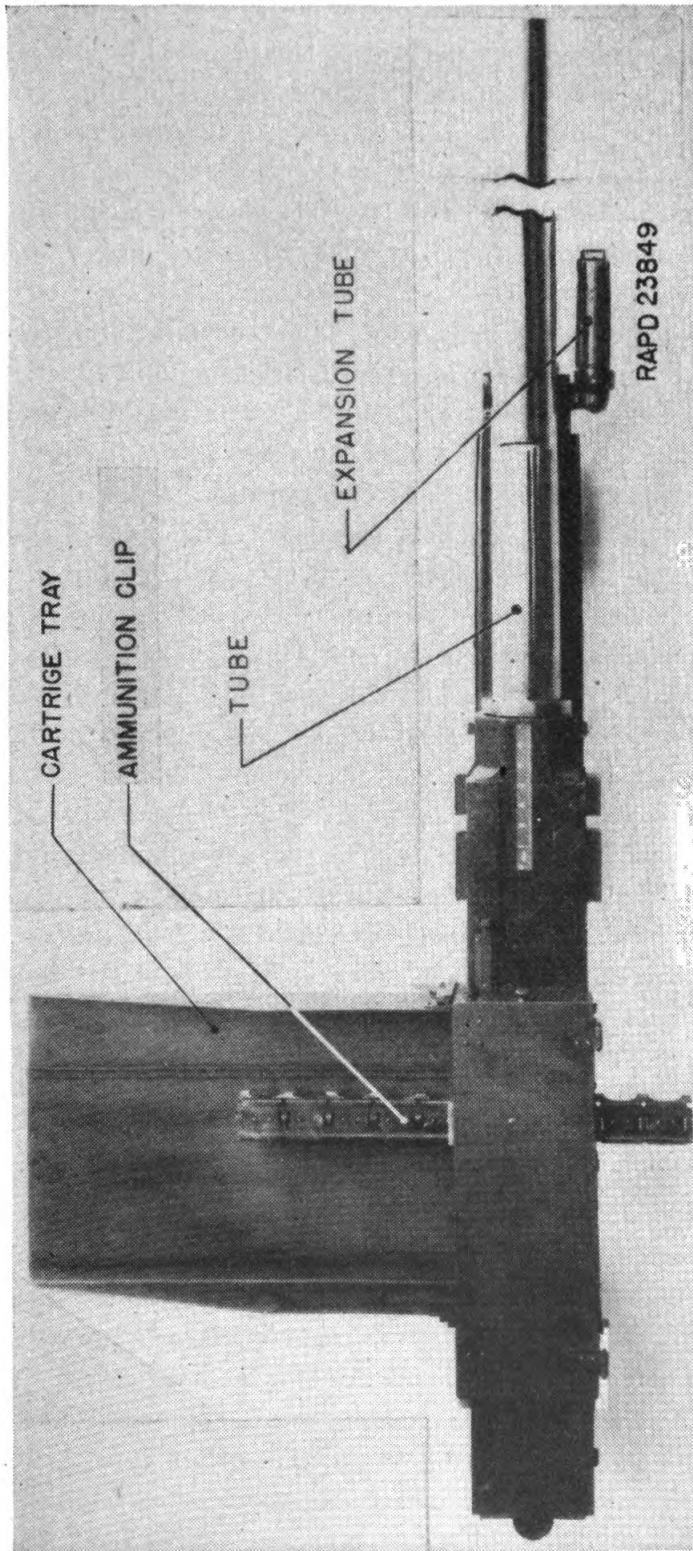

FIGURE 4.—Top view of gun and cartridge tray.
**8. Feed box.**—*a. Ammunition clip and cartridge tray.*—The cartridge tray snaps to the left side plate of the feed box and supports the loaded ammunition clip as it feeds into the gun. The ammunition clip (fig. 4) is a long, narrow channel-shaped piece to which are riveted 10 spring clips. One round of ammunition is held by each spring clip. The loaded clip is fed into the gun through the opening in the left side plate of the feed box. The feed box mechanism automatically removes the rounds from the clip and moves the clip out of the feed box through a hole in the right side plate.